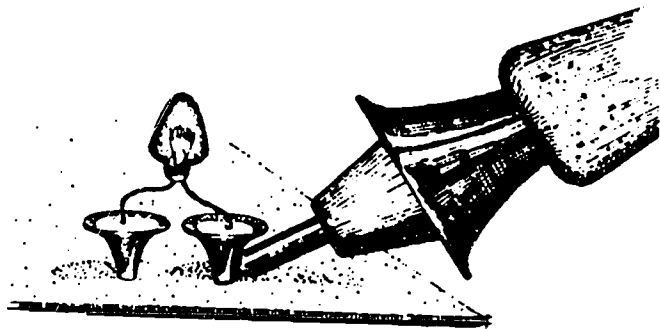

Figure 5-40. Neon in well socket.
The neon lamp shown in figure 5-35(4) is usually found in a power supply. Quite often its purpose is for regulation of the power supply. It may be a plug-in lamp with stiff leads. More commonly, however, it is a lamp with no metal base, and it has flexible lead wires protruding from the glass envelope. (Refer here to fig. 5-40.) In power supplies using this lamp, two wells filled with solder are installed to secure the leads of the lamp. Installation and removal consists of your heating the envelope with a soldering iron, removing the lamp lead, and then inserting the new lamp lead in the molten solder. Again, any work you perform in this area *must* be done with all power removed.